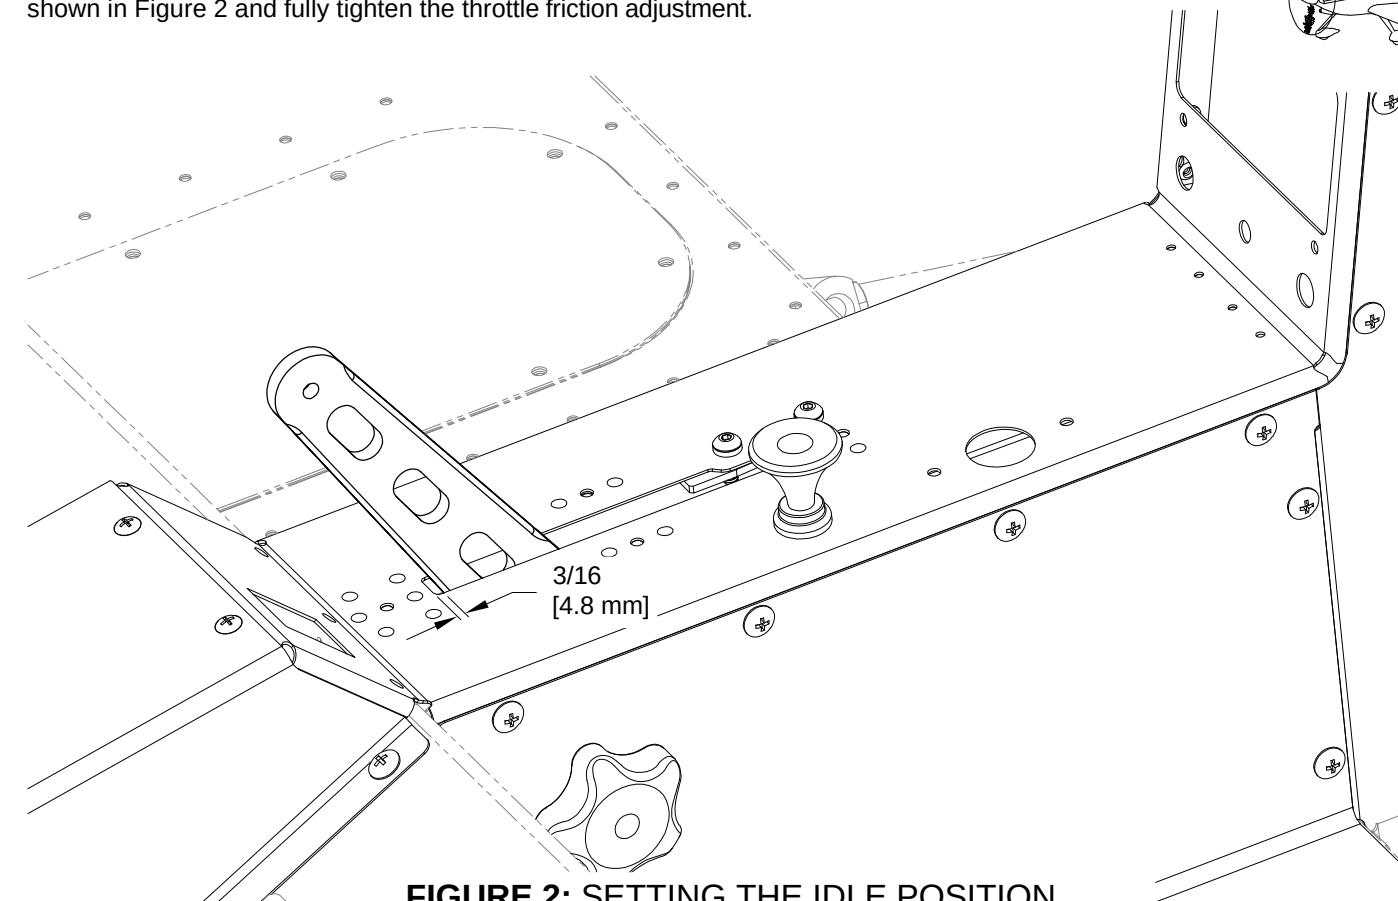

FIGURE 2: SETTING THE IDLE POSITION
Step 4: Move the throttle lever forward from the aft end of the slot as shown in Figure 2 and fully tighten the throttle friction adjustment.